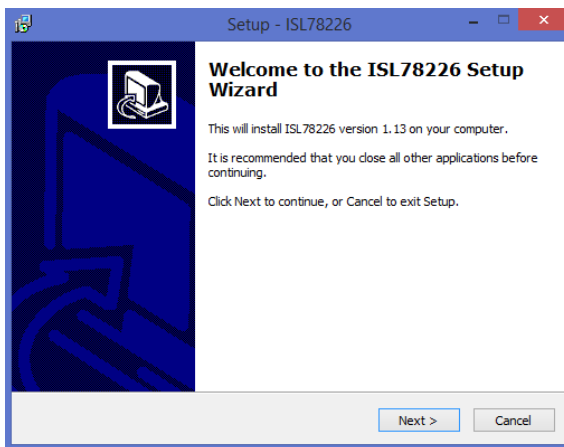

Figure 7. Setup Wizard
- (2) Click **Run** and approve the request to download the software. The Setup Wizard screen in Figure 7 appears.